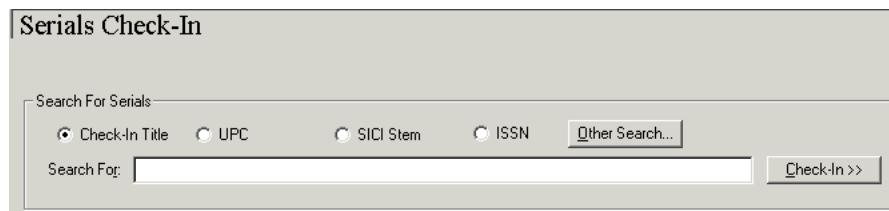

Figure 2-47. Serials Check-In search work space
- The **Serials Check-In** button opens the **Serials Check-In** search work space (see Figure 2-47)